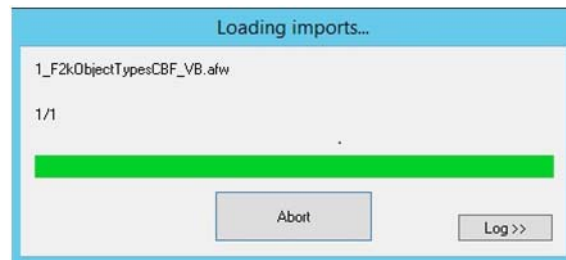

Figure 14. Loading imports - Abort
11. In the **Loading imports** screen as shown in Figure 14, click **Abort** to cancel the system extension loading.